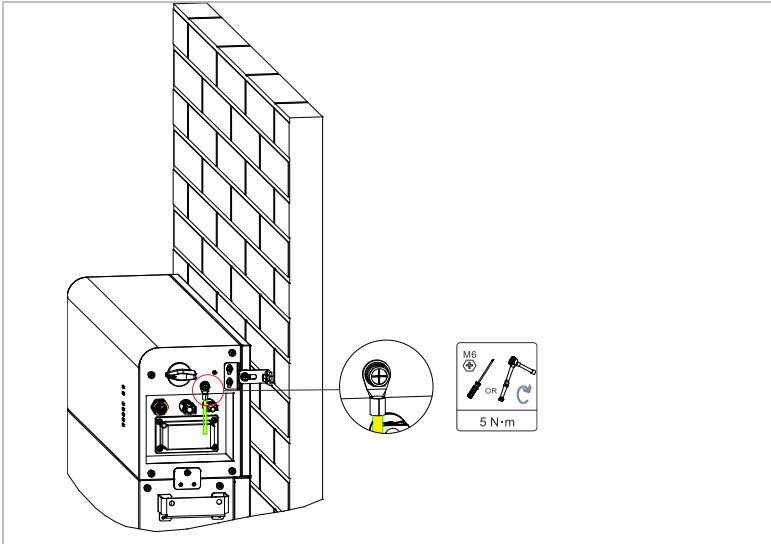

Figure 5-9 Installation diagram of the protection ground cable
Step 2: As shown in Figure 5-9, install a protection ground cable at the ground terminal on the right of the BDU and connect it to the external ground protection point.